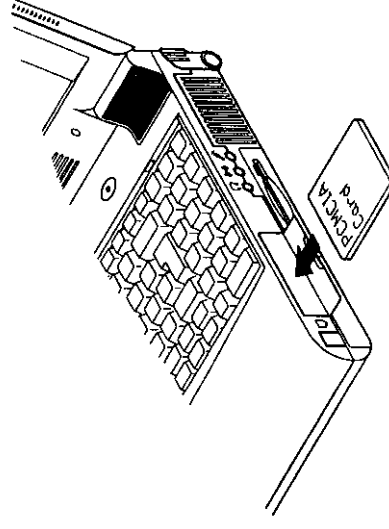

Figure 2-17
2. Align the PC card with the slot and push it in firmly until it locks into the place (Figure 2-17).